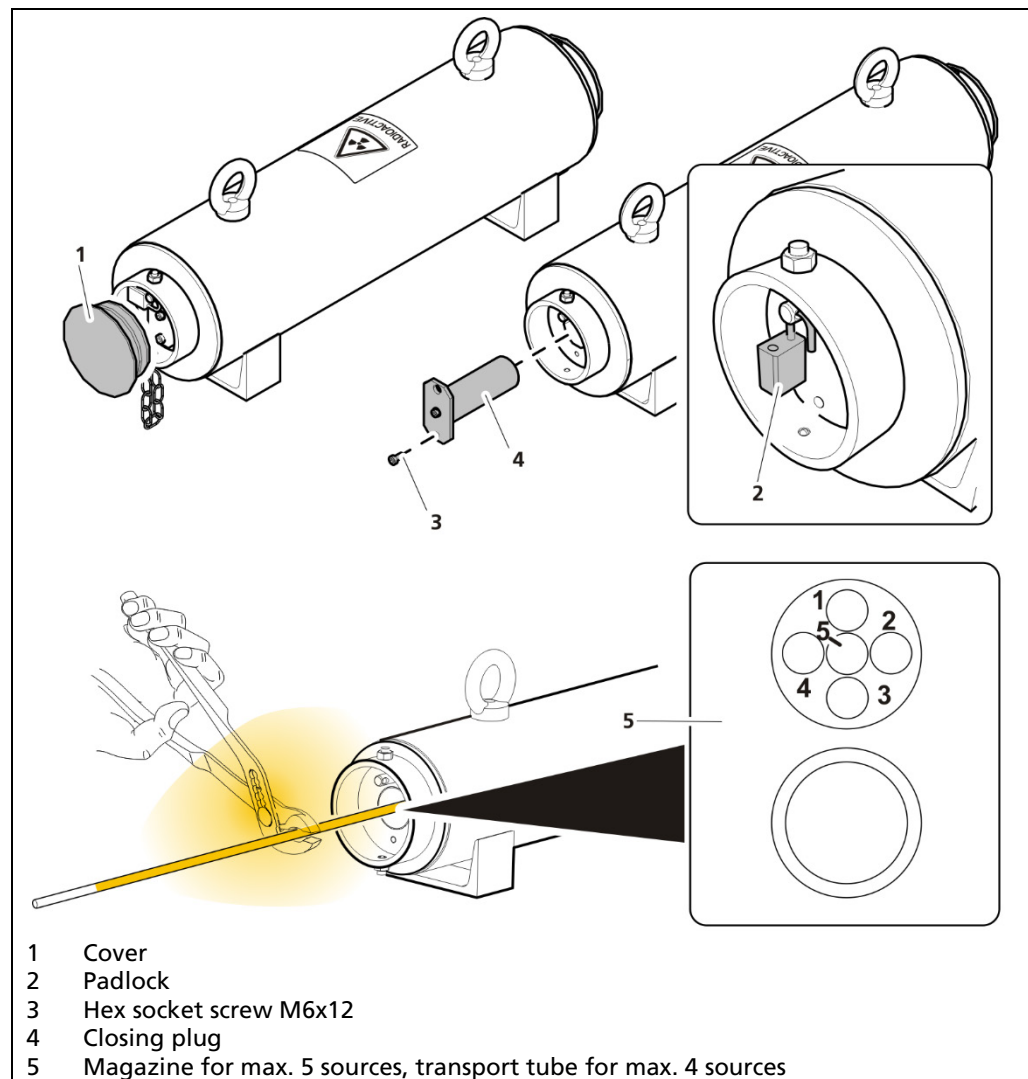

Fig. 7 Remove rod source
1. Remove the covers (Fig. 7, Item 1).
2. Remove the padlocks (Fig. 7, Item 2).
3. Loosen the hex socket screw (Item 3) and remove the closing plugs (Fig. 7, Item 4).